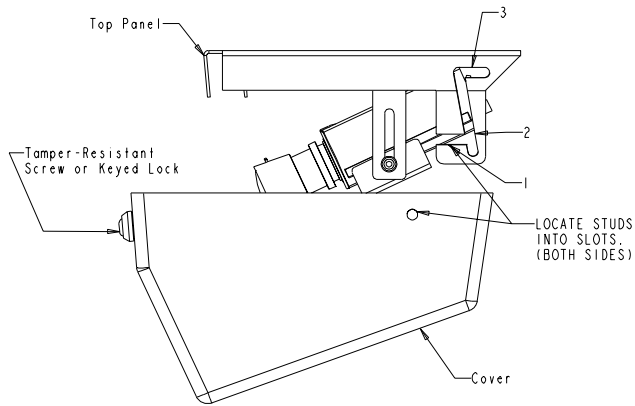

Figure 11: Installing the Cover
1. Mount the cover by aligning the two studs near the rear of the cover with the openings of the z-shaped slots in the top panel. Slide the cover to the rear, then upward and finally to the rear again. See figure 11.